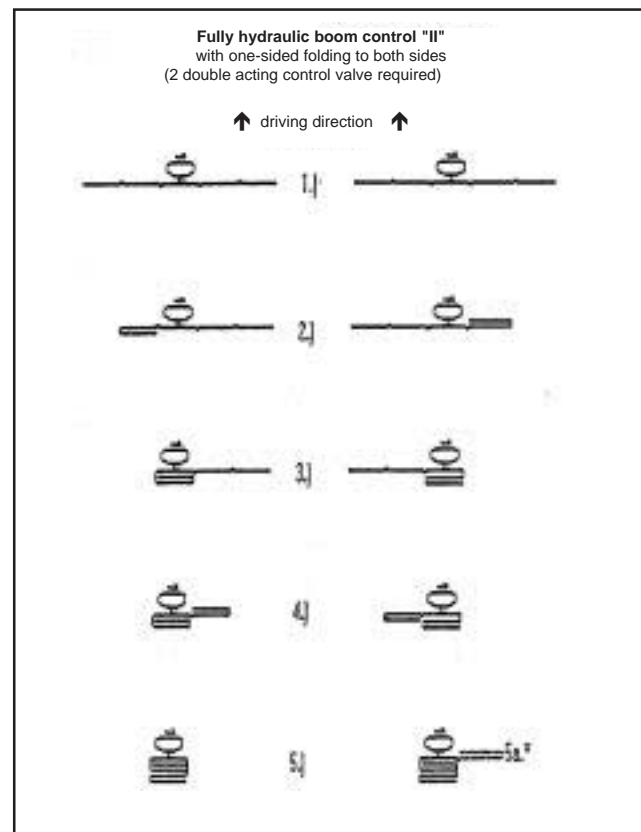

Fig. 10.5
2. **Fully hydraulic boom actuation "II"** enables the one sided folding either left hand or right hand in driving position (Fig. 10.5) (1 single acting control valve and two double acting control valves required on the tractor).